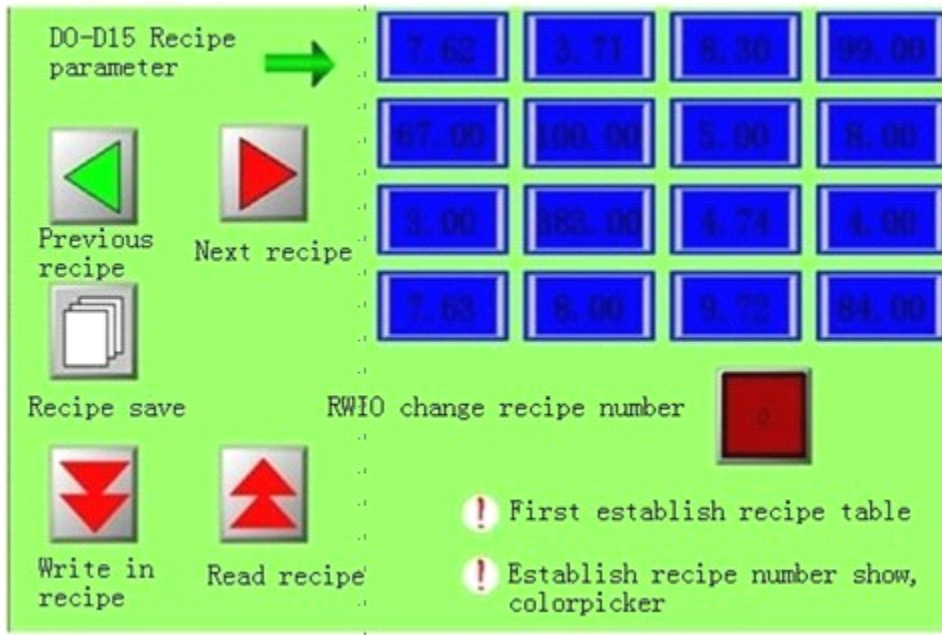

Figure 7-33 Recipe effect diagram
3. The screen shown in figure 7-33 can be finished as per above mentioned operations: